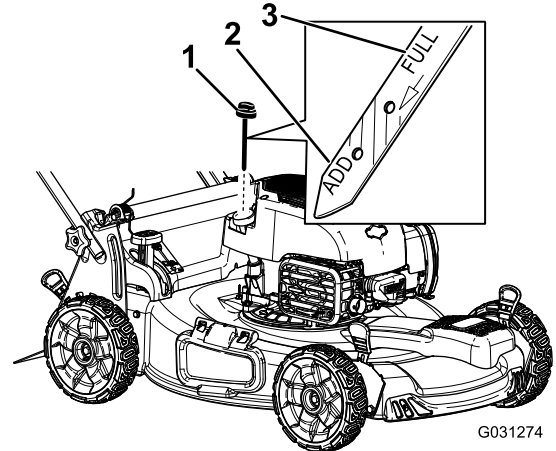

Figure 31
4. Remove the dipstick (Figure 31).
6. **Slowly** pour oil into the oil-fill tube until the oil level reaches the **Full** line on the dipstick (Figure 31). **Do not overfill.**